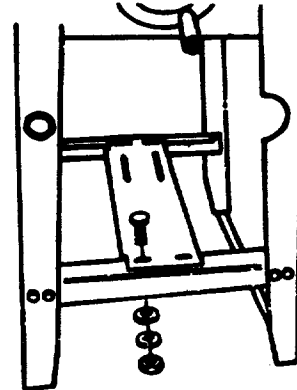

Figure 4 - Install Lower Motor Bracket
- $\frac{5}{16}$ " 18 x $\frac{3}{4}$ " Carriage bolt (10)
- $\frac{13}{32}$ " Flat washer (10)
- $\frac{5}{16}$ " Lockwasher (10)
- $\frac{5}{16}$ "-18 Hex nut (10)
- Install lower motor bracket across stiffeners (Figure 4) using four carriage bolts, $\frac{13}{32}$ " flat washers, $\frac{5}{16}$ " lockwashers and $\frac{5}{16}$ "-18 hex nuts. Hand tighten hex nuts.